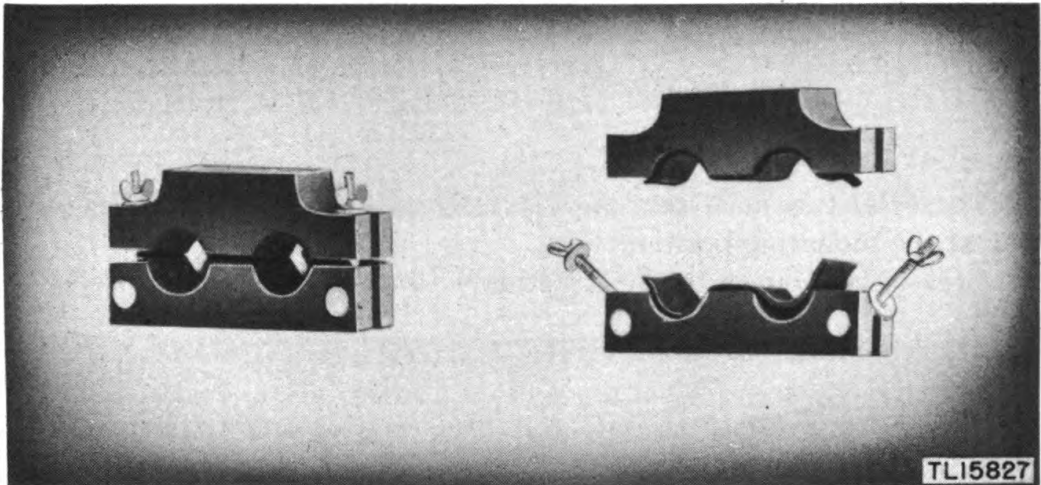

Figure 2. Mast cradles.
b. When unpacking Case No. 1, save the cradles (fig. 2) holding the mast sections. They will be used whenever the antenna is repacked.